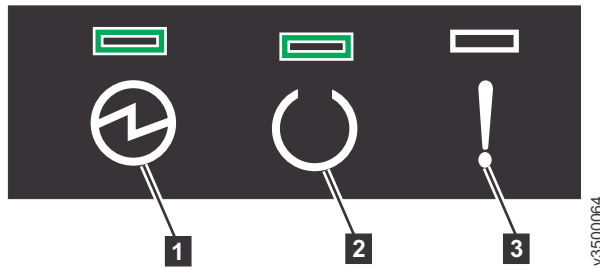

Figure 27. Expansion canister LEDs
2. From the rear of the expansion enclosure, check the LEDs on each expansion canister (see Figure 27 on page 28).